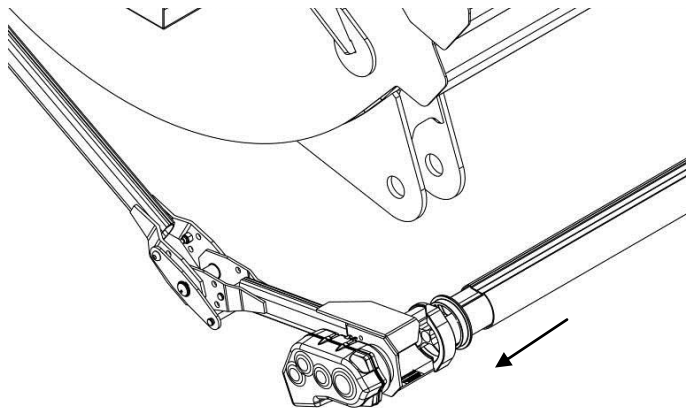

Figure 14
13. Locate the polymer bushings that were taped to the front & rear arms and slide them onto the front & repeat of the axle, as shown below in figure 14.